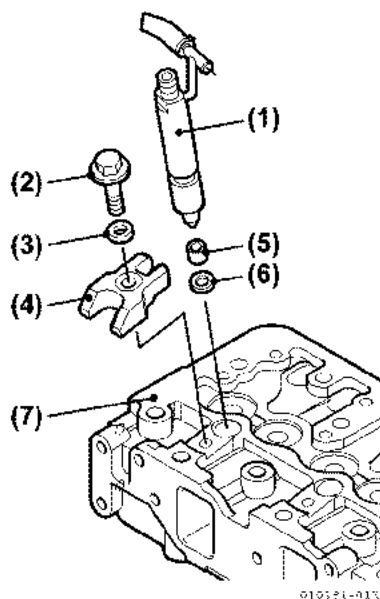
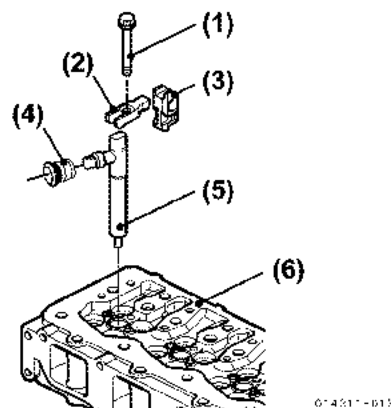

Figure 6-11
Figure 6-12
2. Install new gasket (**Figure 6-11, (6)**) on tip of injection nozzle (**Figure 6-11, (1)**) and (**Figure 6-12, (5)**).
3. Place the retainer ((**Figure 6-11, (4)**) for 3JH5E and 4JH5E or (**Figure 6-12, (3)**) for 4JH4-TE and 4JH4-HTE) on the injection nozzle as shown.
4. 4JH4-TE and 4JH4-HTE: Install the pipe seal (**Figure 6-12, (4)**).
6. Install bolt and washer (**Figure 6-11, (2, 3)**) and tighten to 26 N·m (19.2 in.-lb).